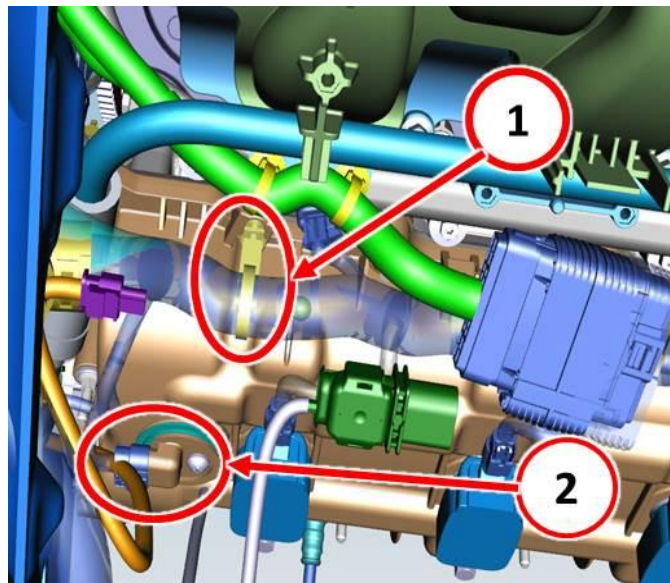

Fig. 2 Engine Wire Harness
3. Remove the existing wire harness tower clip and install P/N 68289129AA tower clip in the same location on the wire harness. See (Fig. 2). Engage the tower clip to the cylinder head cover. The new tower clip should be a tighter fit to the cylinder head cover than the removed clip.